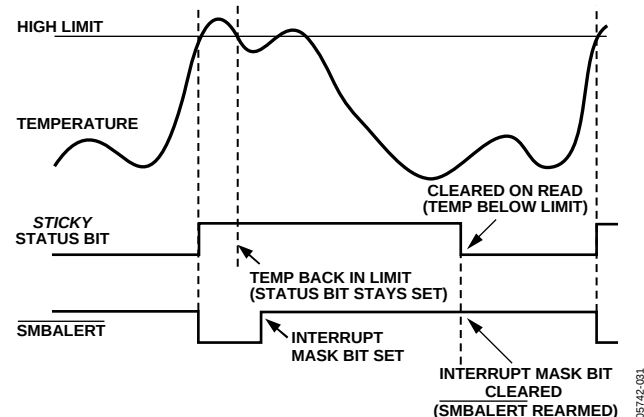

Figure 30. How Masking the Interrupt Source Affects SMBALERT Output
7. Periodically poll the status registers. If the interrupt status bit has cleared, reset the corresponding interrupt mask bit to 0. This causes the $\overline{\text{SMBALERT}}$ output and status bits to behave as shown in Figure 30.